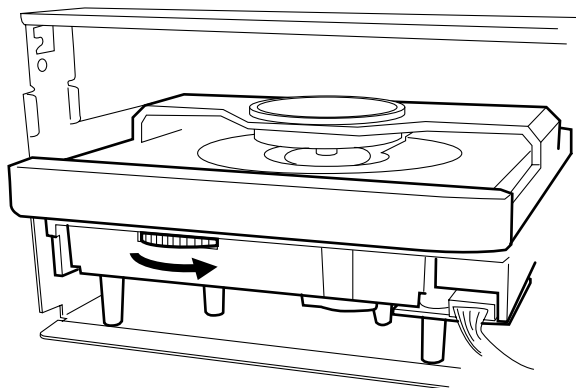

Fig. 3
- c. Lower the pick-up mechanism by turning the gear on the front face of the drive to the right. (Fig. 3)